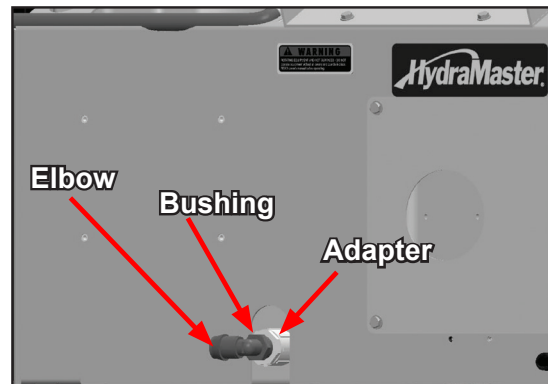

Figure 63. Install Adapter, Bushing and Elbow
4. Insert the adapter (P/N 000-052-236), bushing (P/N 000-052-235) and elbow (P/N 000-052-348) into the front of the HydraCradle as indicated in Figure 63.